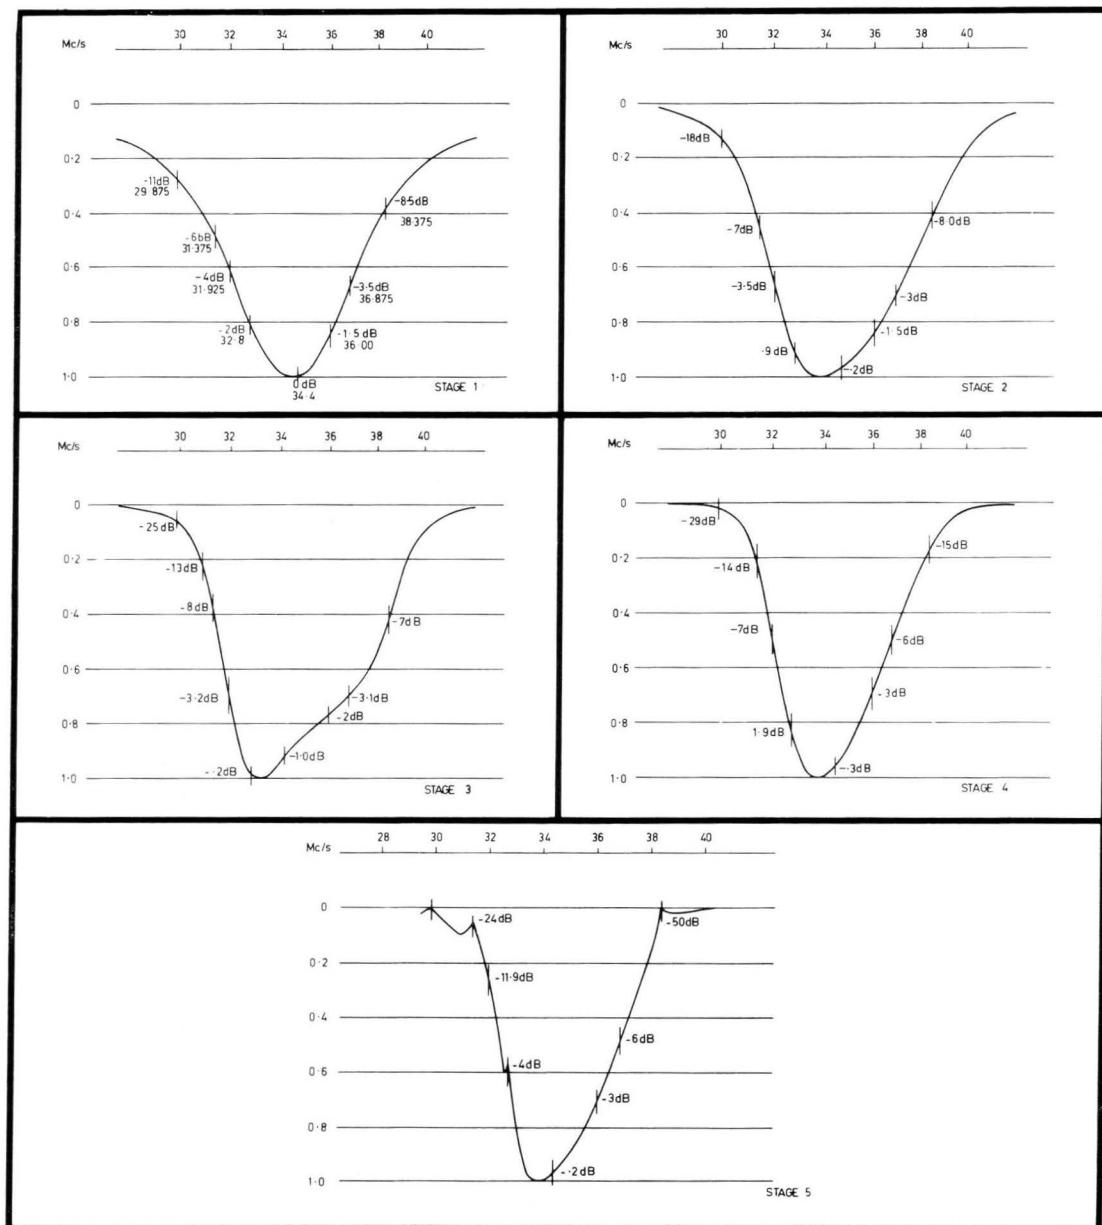

Fig. 3 — I.F. ALIGNMENT CURVES
- (b) Adjust the cores in L32 and IFT3 to obtain the response of Fig. 3, Stage 1.
- (b) Adjust the cores of L27 and IFT2 to obtain the response of Fig. 3, Stage 2.
- (b) Adjust the cores of L23 and IFT1 to obtain the response of Fig. 3, Stage 3.
- (b) Adjust the cores of L11 (IF output coil, adjacent to V2) and L21, to obtain the response of Fig. 3, Stage 4.
(a) Adjust L22 to 28.375 Mc/s. Fig. 3, Stage 5.
(c) Check the overall response and make any adjustments to obtain an overall response as shown in Fig. 3, Stage 5.